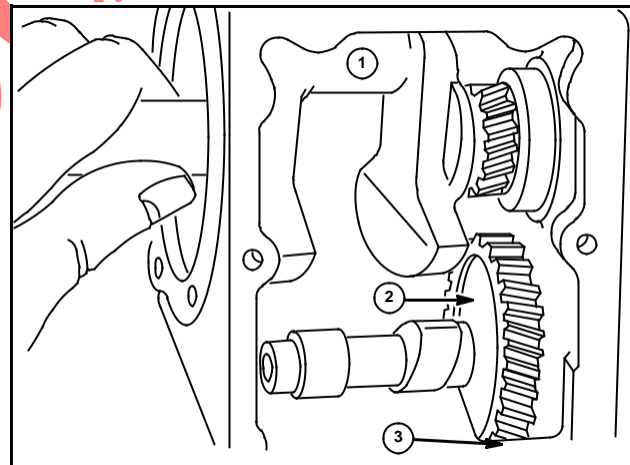

Fig. 17
3. Install crankshaft (1) into cylinder.
6. Place a small amount of sealant on plug and press into camshaft hole on flywheel side of cylinder, Fig. 17.